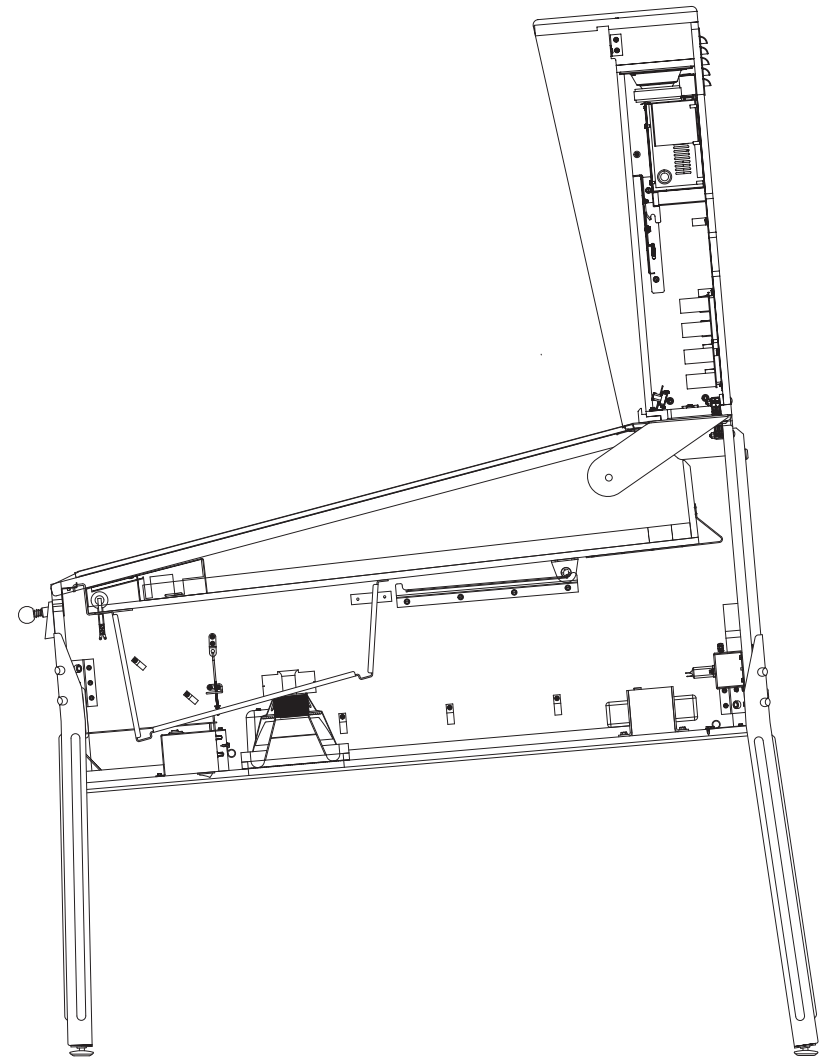

Figure A10. Playfield in the game play position.
12) Your Jersey Jack Pinball® playfield is designed to rest in four distinct positions in its cabinet for game play, cleaning and maintenance. Figure A10 shows the playfield in its standard position.